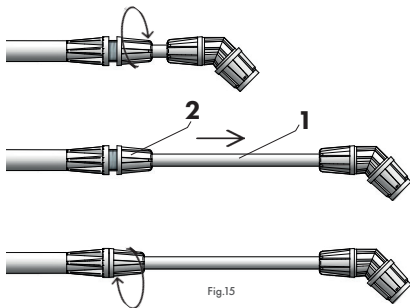

Fig.15
The length of the sprayer lance can be adjusted. To do so, loosen the bell-shaped nut (fig. 15/pos. 2), slide out the telescopic section of the lance (fig. 15/pos. 1) to the required length (max. 0.54 m) and tighten the bell-shaped nut (fig. 15/pos. 2).